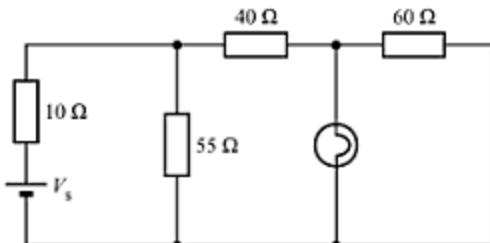

Fig. A-109
- A-76. The light bulb shown in the circuit of Fig. A-109 has a rating of 120-V, 60-W. What must be the supply voltage V_s for the light bulb to operate at rated values.